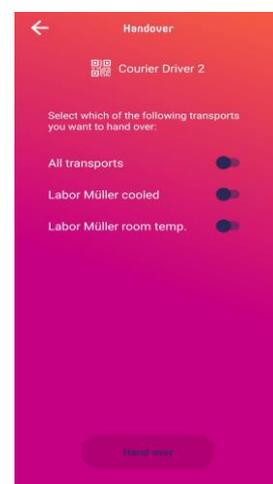

Figure 40. Select samples to handover.
- a) Tap  to choose the samples to drop off (see Figure 40).
- b) Tap "Hand over" to confirm that the SmartTubes and the samples have been handed over (see Figure 40).